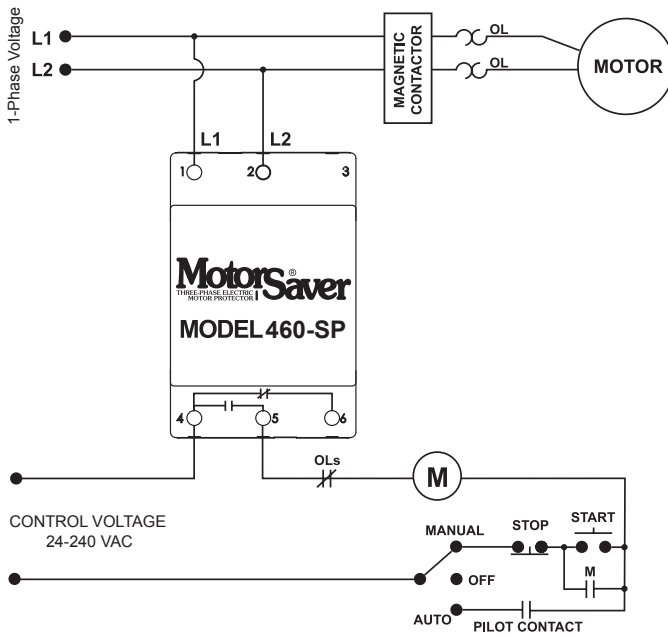

FIGURE 1: CONTROL WIRING DIAGRAM
2. Connect L1 and L2 on the MotorSaver's terminal strip to the LINE SIDE of the motor starter (See Figure 1).
3. Connect the output relay to the circuitry to be controlled. For motor control, connect the normally open contact in series with the magnetic coil of the motor starter (See Figure 1). For alarm operation, connect the normally closed contact in series with the control circuit (See Figure 2).